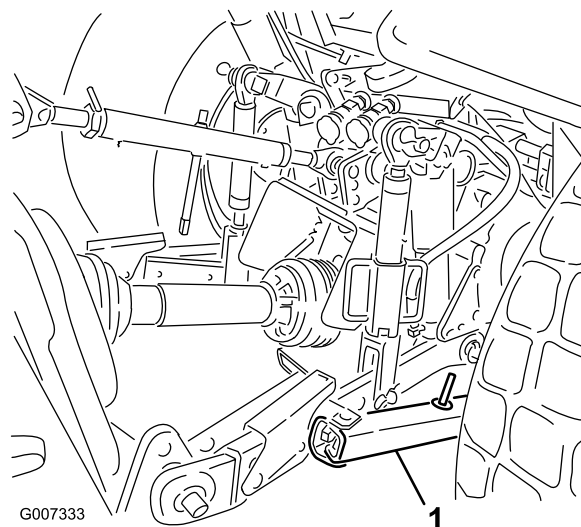

Figure 28
1. Adjust the sway links on the lower lift arms to minimize side-to-side sway to a maximum of 25 mm (1 inch) at each side (Figure 28).